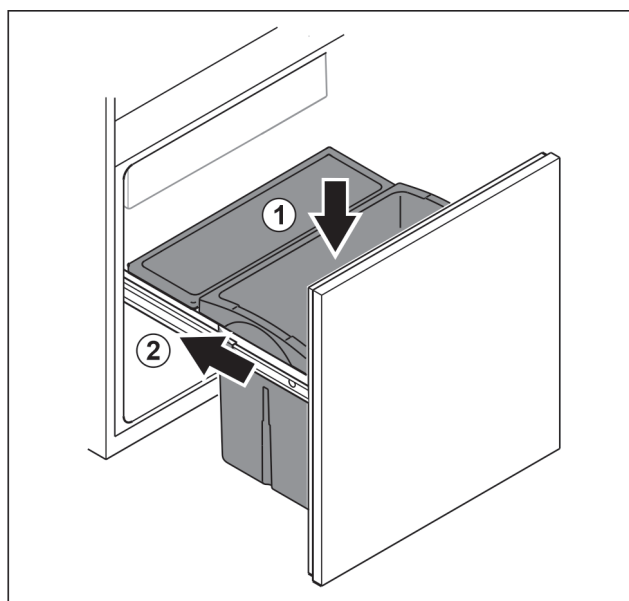

Fig. 101
- Insert drawer from above. Fig. 101 (1)
- Slide in pull-out unit. Fig. 101 (2)